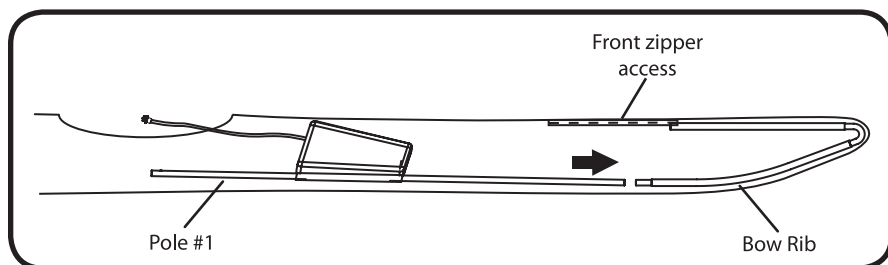

Figure 5
5. Install pole #1 into the front end of the kayak connecting it with the bottom portion of the Bow Rib. The pole should be placed on top of the foam floor and the numbered end of the pole should be at the cockpit of the kayak. **See Figure 5.**